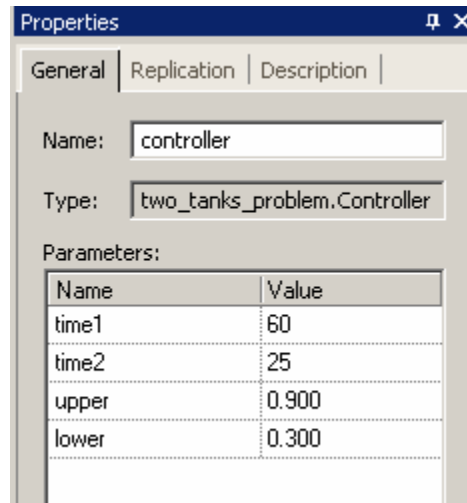

Figure 28. Encapsulated object properties page. Parameters table
- In the Properties window, specify the parameter value in the *Value* cell of the *Parameters* table (see Figure 28).